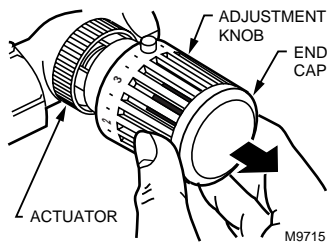

Fig. 11. Removing end cap.
2. Lift the end (white) cap from the actuator (see Fig. 11).